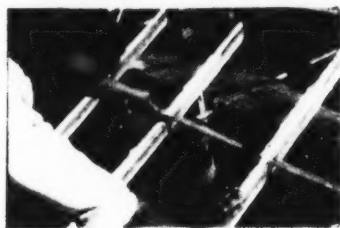

Figure 1
1. If necessary, remove aluminum bar caps. Scrape the putty that seals the glass to the bar. Then, remove the glazing nails (wood frame) or clips (aluminum frame) holding down the glass (Figure 1).